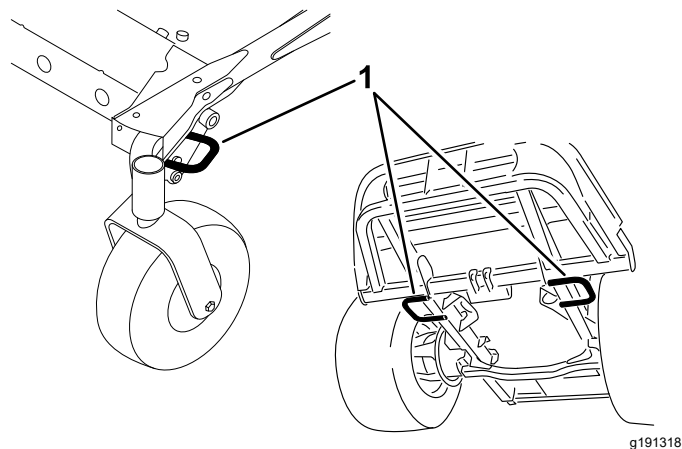

Figure 28
5. Use the tie-down loops on the machine to securely fasten it to the trailer or truck with straps, chains, cable, or ropes (Figure 28).